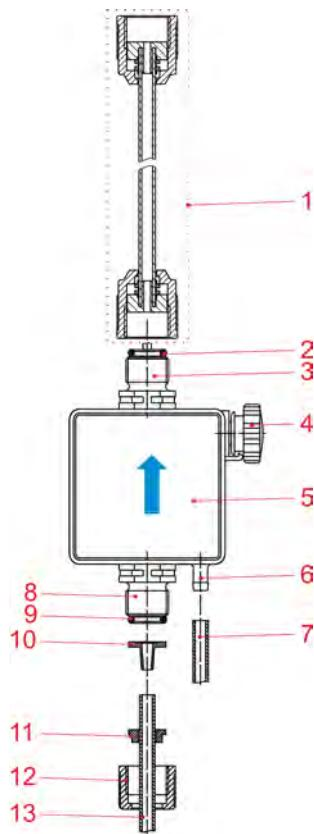

Fig. 8: Hydraulic installation
When connecting the suction and pressure line, ensure that the required seal is achieved by mounting O-rings on the connections (Fig. 8 , item 2 and item 9).
1. Fit the O-ring (Fig. 8 , item 2) in the valve groove.
4. ➤ Mount the prefabricated metering line (Fig. 8 , item 1).
5. ➤ Lay the O-ring (Fig. 8 , item 2) in the valve groove and tighten the union nut.
2. ➤ Push the union nut (Fig. 8 , item 12) and clamping piece (Fig. 8 , item 11) over the hose.
3. ➤ Insert the union nut and clamping part up to the stop collar on the tapered part (Fig. 8 , item 10).
4. ➤ Fit the O-ring (Fig. 8 , item 9) in the valve groove.